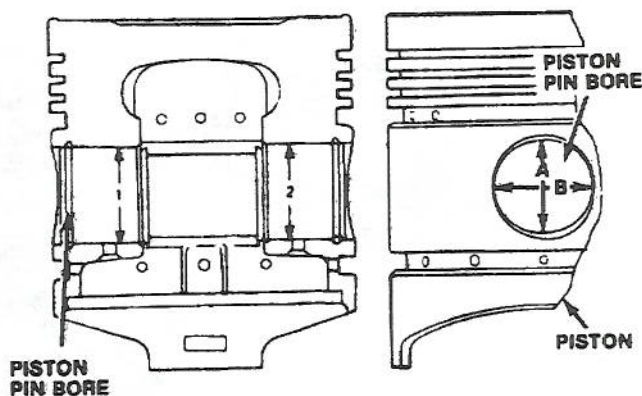
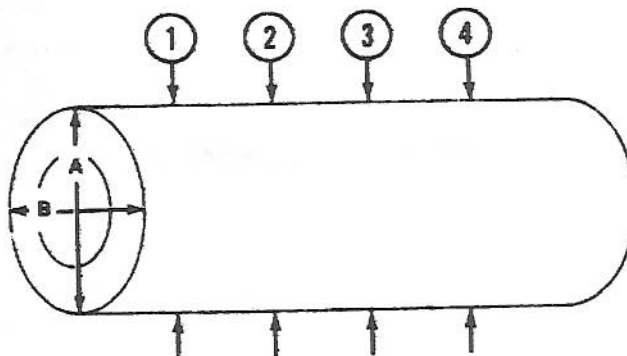

Figure 5-60. Piston Pin Bore Measurement
Figure 5-61. Piston Pin Measurement
- (5) Measure piston pin bore diameter as shown in figure 5-60, and record for future reference.
- (6) If the end play of the connecting rod measured during removal exceeds the figure prescribed in table 6-1, connecting rod must be replaced.
- (7) Check piston pin (2) for severe wear or scratches. If worn or scratched, piston pin (2) must be replaced.
- (8) Measure diameter of piston pin (2) as shown in figure 5-61, and calculate clearance between piston pin (2) and piston pin bore (as measured earlier). If clearance exceeds figure prescribed in table 6-1, piston pin (2) and/or piston must be replaced.